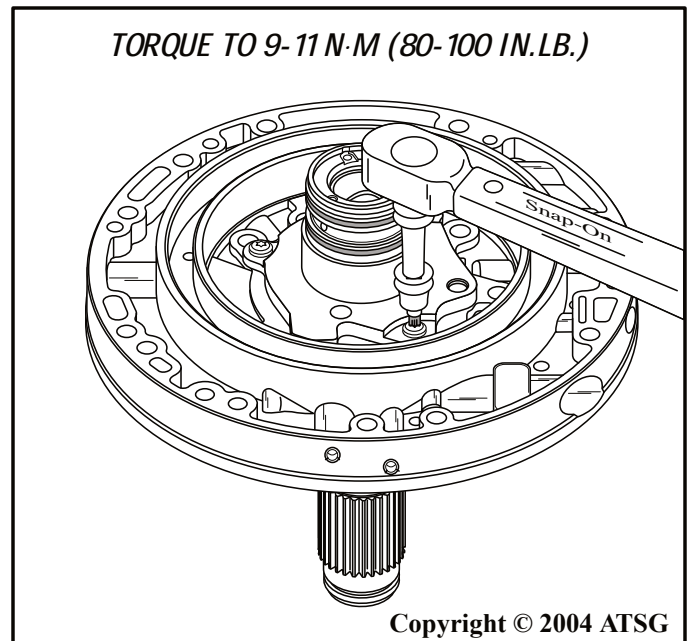

Figure 86
13. If it was removed, install the stator shaft and torque the bolts to 9-11 N•m (80-100 in.lb.) as shown in Figure 86 and 87.